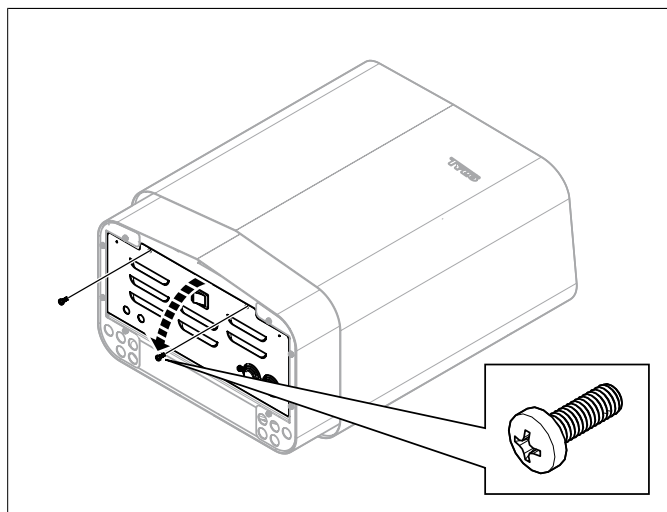

Figure 7: Opening/closing the cover
2. Slacken the screws and open the cover (see **Figure 7**, Page 4).
7. Close the cover and tighten the screws (see **Figure 7**, Page 4).